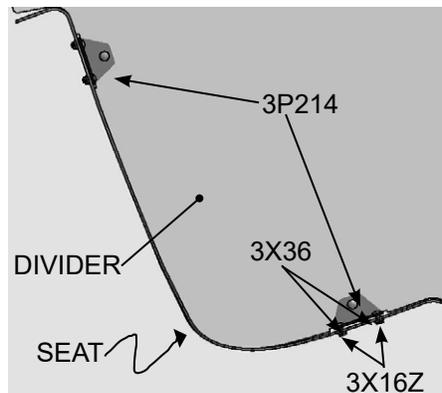

Fig. 8
- H. Attach the (3P214) divider mounting brackets using (3X36) bolts and (3X16Z) whiz nuts. (Fig. 8)